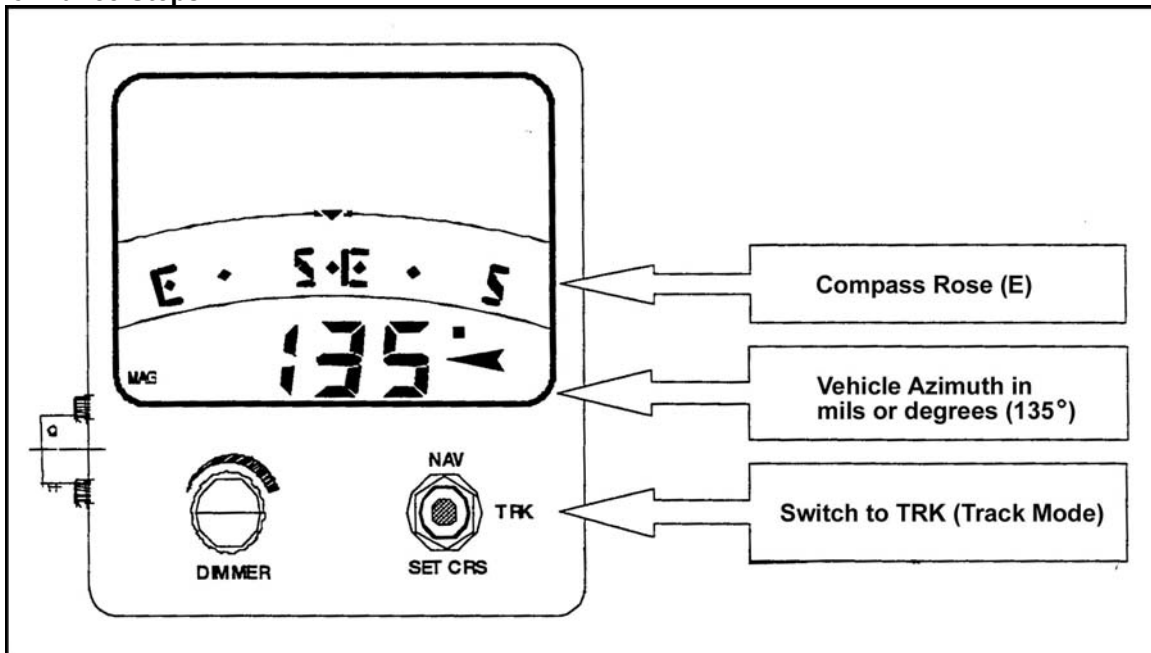

Figure 3. DCD track mode.
- (1) Observe that the cardinal direction and azimuth are displayed on the DCD.
- (2) Depress the mode switch to the SET CRS position and release and observe that the compass rose has displayed the vehicle azimuth (Figure 3).